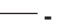

Fig. 6
N.B.: Motor [1] must be turn toward automation interior side (fig. 6).